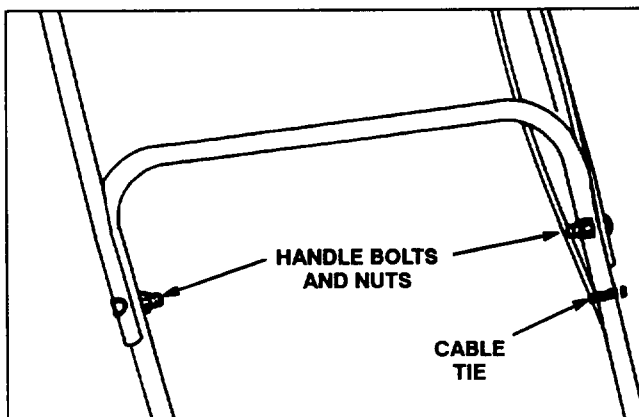

Figure 2
6. **UPPER HANDLE** (Fig. 2)—Secure upper and lower handles in place with handle bolts and nuts. Position nuts on inside of handle.
8. Secure control cables to left side of handle with a cable tie (Fig. 2).